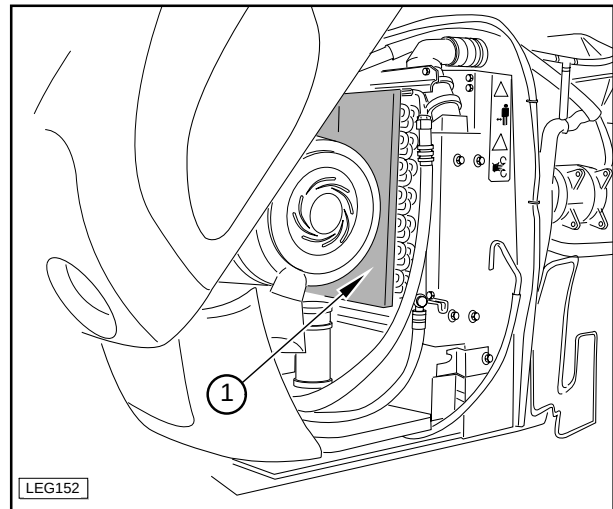
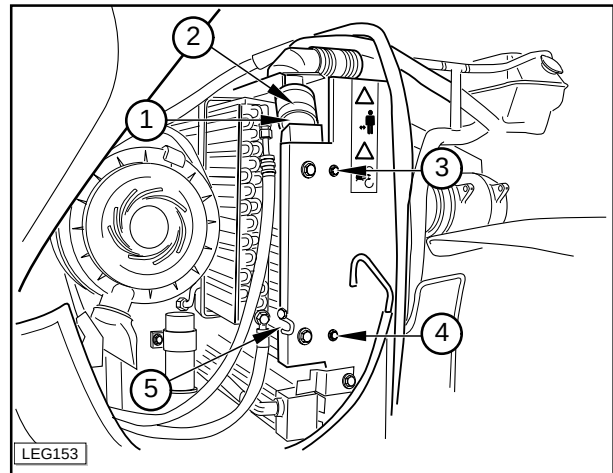

Fig.5-14
Fig.5-15
- Loosen the retainer (5 - Fig. 5-15) and pull out the transmission oil radiator (1 - Fig. 5-14)
- 2 - Loosen the retainer (5 - Fig. 5-15).